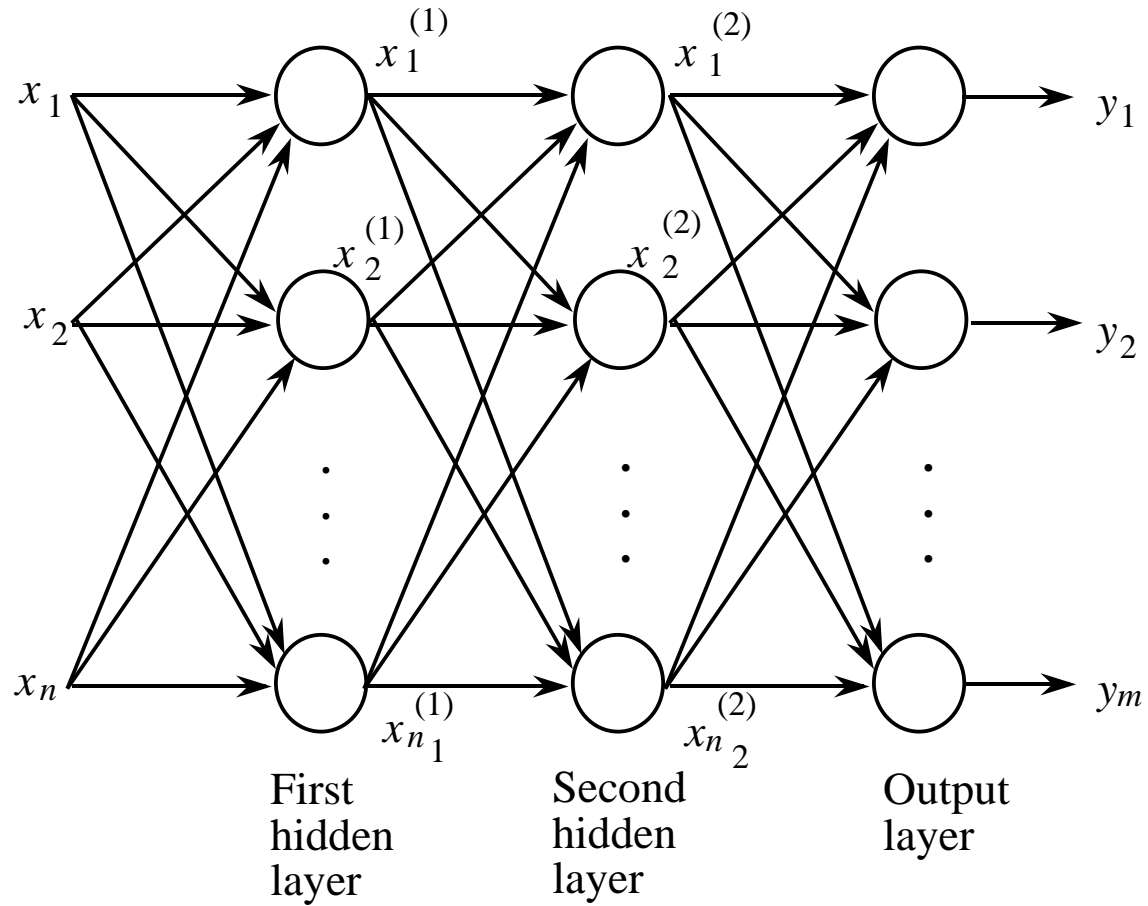

Figure 15: Multilayer perceptron model.
- Equation (1), with one of the above activation functions, represents the computations made by one neuron - next, we interconnect them.
- Figure 15: A three “layer” perceptron since there are three stages of neural processing between the inputs and outputs.